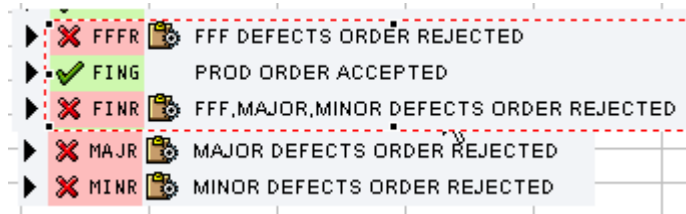

Fig. 18
8.9.2. Double click on the arrow icon located to the left of the usage code to be assigned (Fig. 18)